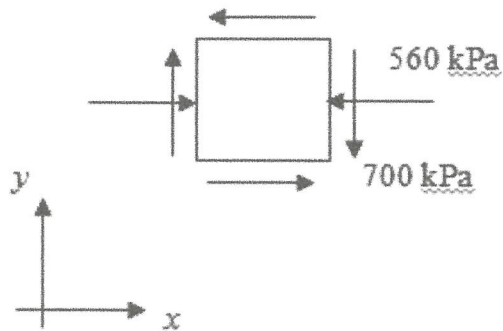

Figure Q6
- Q6.** A propeller shaft subjected to combined torsion and axial thrust is designed to resist a shear stress of 700 kPa and a compressive stress of 560 kPa as shown in **Figure Q6**.